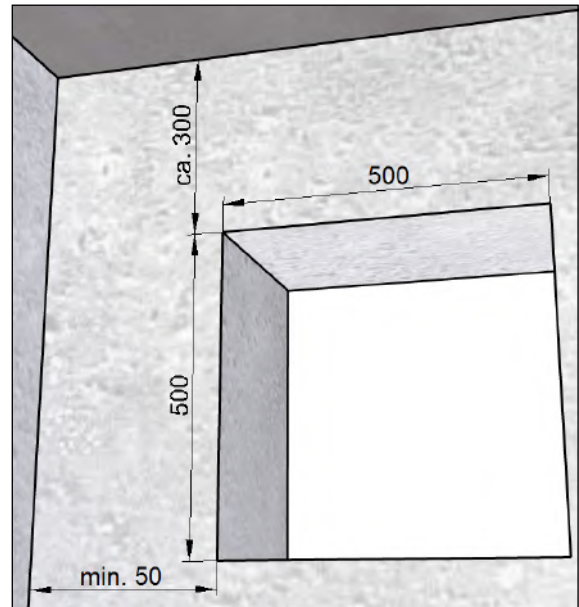

Fig. 9: Wall breakthrough for installation kit **with** filler piece, dimensions in millimetres
- Complete wall breakthrough (see Fig. 9) for installation kit **with** filler piece M-WRG-M/Fü
- Complete wall breakthrough (see Fig. 9 auf page 17) for installation kit **with** filler piece M-WRG-M/Fü